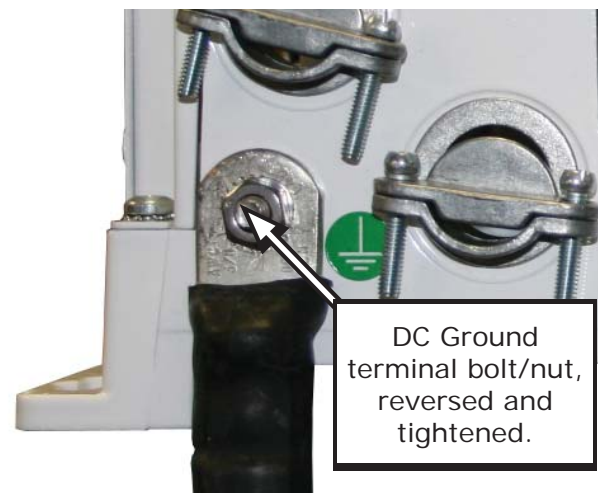

Figure 2-23, Connecting a Large DC Ground Wire
4. Reverse the removed bolt and place it back in the chassis hole to attach a correctly sized ground cable with a ring terminal to the MS Series chassis as shown in Figure 2-23.